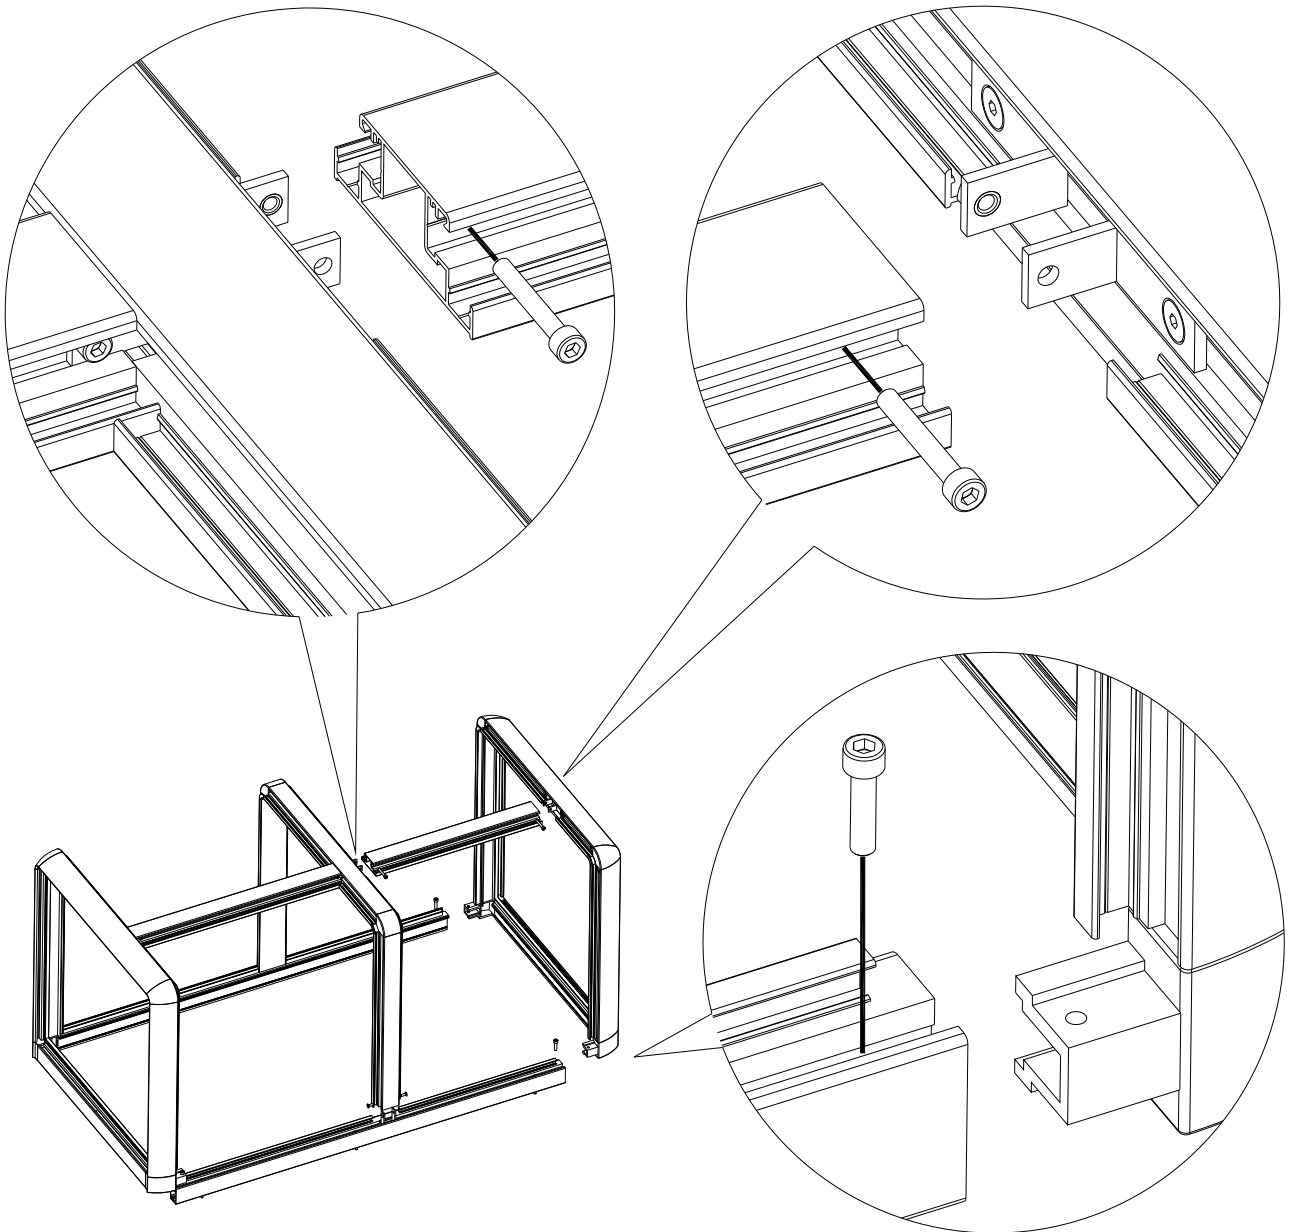

Figure 28: exploded view sound shield W-SQ16
- 2 The sound shield can be disassembled according to exploded view below (figure 28)
50201370	Raw water pump complete Whisper Power type M16 (***) (refer to fig. 28)